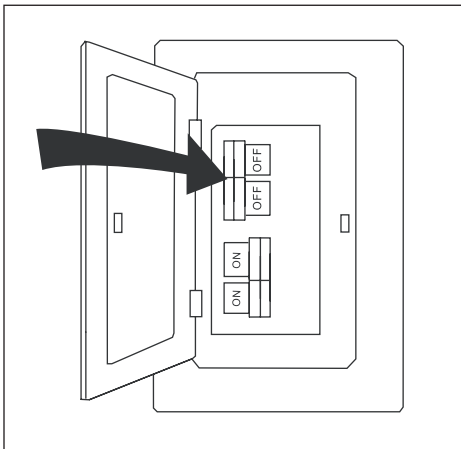

Figure 1.1
1. Turn off power to the fan at the breaker box and the wall switch (Figure 1.1). **DANGER:** Failure to disconnect the power supply prior to installation may result in serious injury or death.